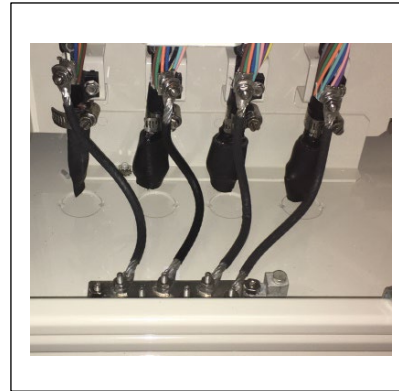

Figure 9
4. Secure a bond clamp to the cable and use a bond strap to connect to the bond bar on the bottom of the cabinet (Figure 9).